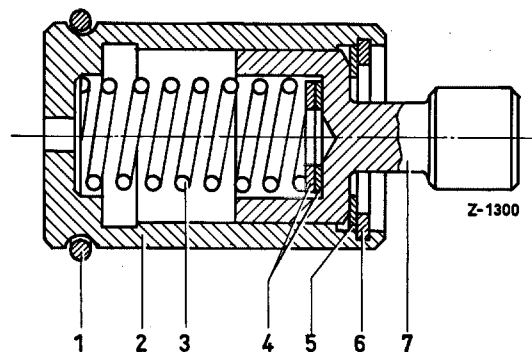

Figure 07-1/2
If the adjustment travel value is too high or too low, the position of the stop pin (7) in the spring capsule housing (2) should be varied by placing washers (5) between stop pin shoulder and lock ring (6) (see Figure 07-1/1).
**Caution!** This variation also varies the pre-tension in the spring capsule. This should be compensated for by placing washers (4) between additional spring (3) and stop pin bottom in order to obtain the specified pre-tension of 50-90 grams.